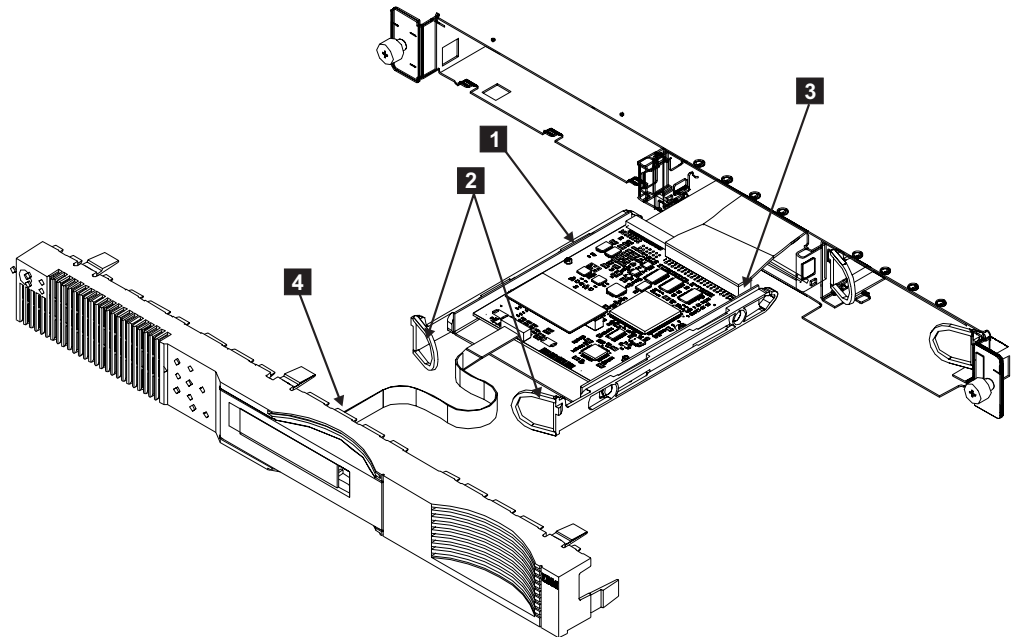

Figure 95. Replacing the SAN Volume Controller 2145-4F2 service controller
1. Carefully push the service controller **1** into the SAN Volume Controller 2145-4F2. See Figure 95.